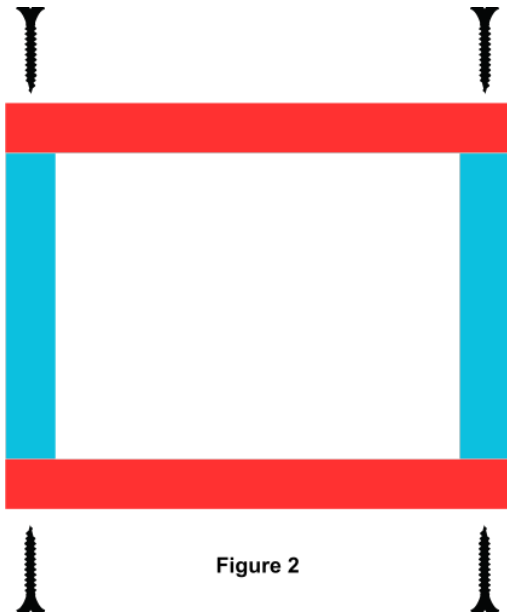

Figure 2
b. Using 2- $\frac{1}{4}$ " wood screws, attach pieces as shown below in figure 2.